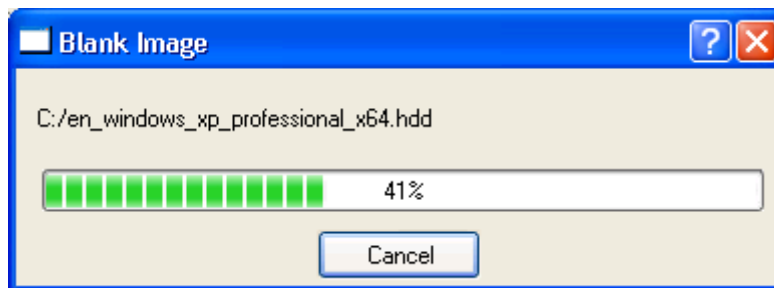

Figure 4-4: Create Blank Image
Before you start creating a new blank disk image make sure that the image will be large enough to install Windows or Linux on it. You can enter the image size in MB or in number of sectors. We recommend an image size of 4-GB. Increase the value of "Image Size (MB)" to 4096 and then click on the "Ok" button to create the image file. A progress bar will inform you of the progress being made (see Figure 4-4).